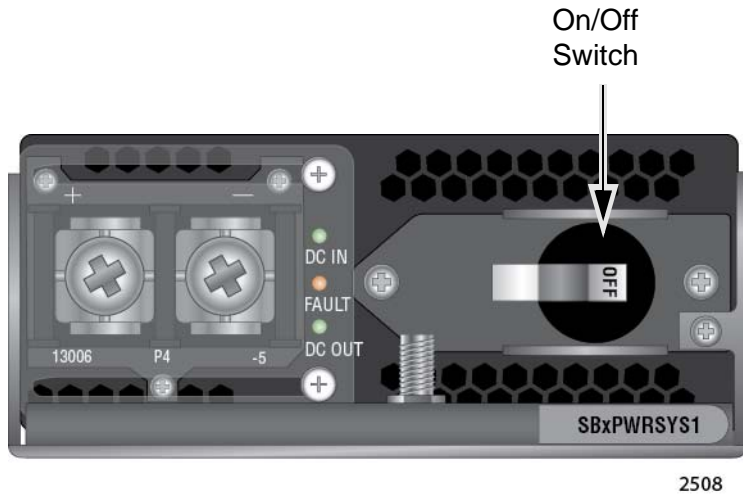

Figure 64. On/Off Switch on the AT-SBxPWRSYS1 DC Power Supply
4. Verify that the On/Off switch on the power supply is in the Off position. Refer to Figure 64 on page 139.